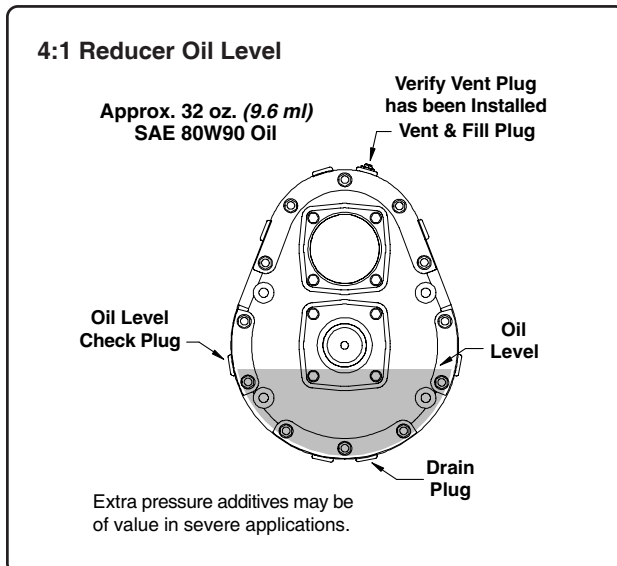

Fig. 4
1. With the gearbox in the upright position, remove the level check plug shown in Fig. 4 below.
2. Discard the plug removed from the top of the gearbox fill opening and install the vent plug shipped separately with the gearbox (See Fig. 4).